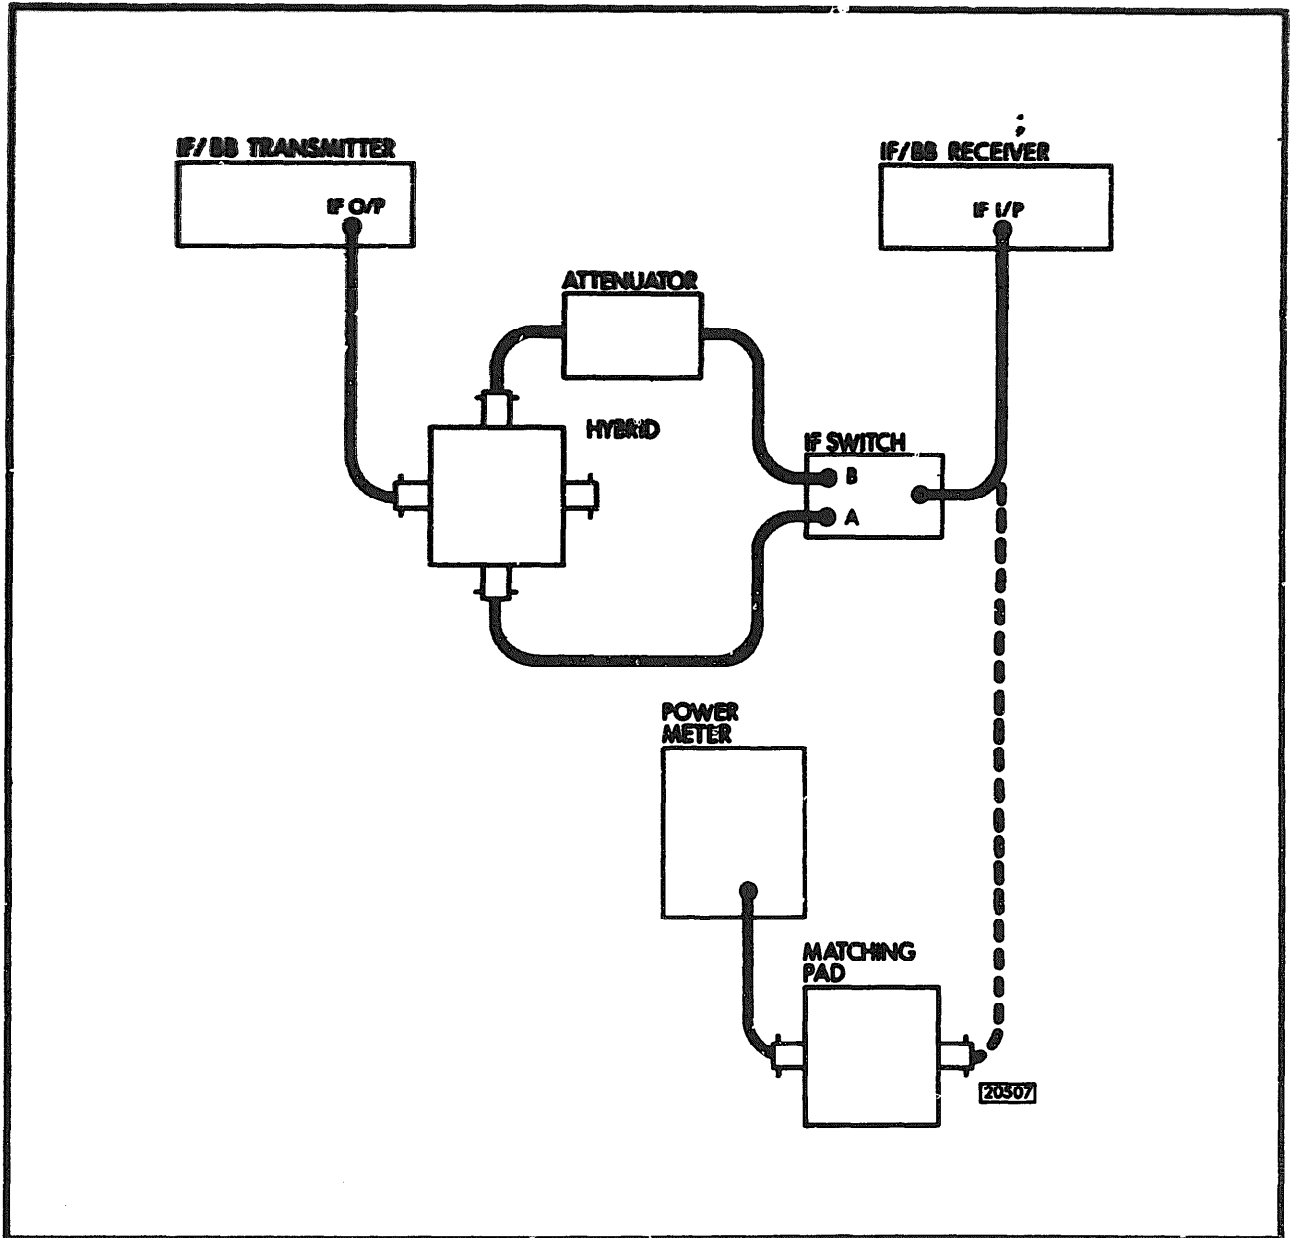

Figure 3-3. IF Calibration Adjustment
5. Connect the equipment as in Figure 3-3 with the IF Switch Output connected, to the 3702B IF INPUT.